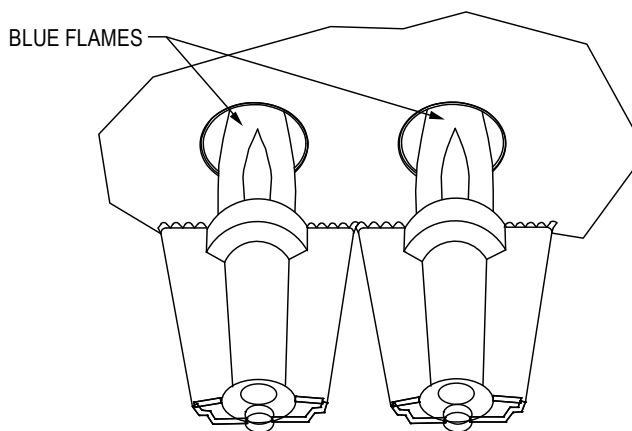

FIGURE 41 - Burner Flames
6. The burner flames are proper; being drawn into the heat exchanger tubes, not lifting, blue in color, or not being distorted by fan operations (see **FIGURE 41 - Burner Flames** below).